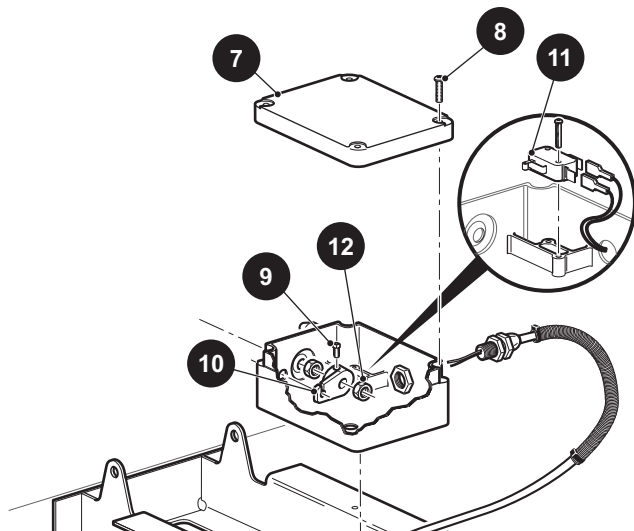

Fig. 8 Pedal Box Micro Switch
To access the micro switch, remove the rocker panel, lift the floor mat and remove the access cover from the floor (Ref. Fig. 3). Remove the screws (8) and cover (7) from the pedal box (Ref. Fig. 8).
Loosen the setscrew (9) in cam (10) using an 1/8" Allen wrench. Loosen the jam nut (12) and move the cam to adjust as needed (Ref. Fig. 8). Adjust to permit 1/2" - 5/8" (13 - 16 mm) of accelerator pedal travel before the micro